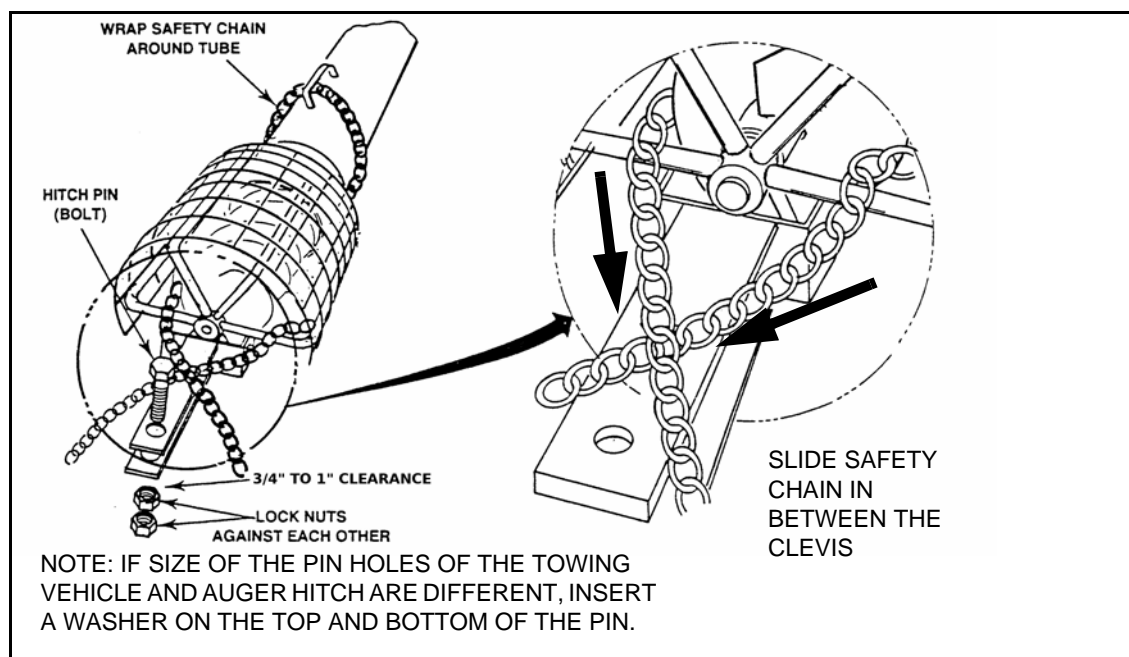

Figure 4.1
Important: Use a type of hitch pin (see Figure 4.1) with a load rating that at least matches the carrying capacity of the towing vehicle.
5. Thread the safety chain through the handle on the lower tube, wrapped around the auger and slipped through the clevis (see Figure 4.1) before securely attaching to the towing vehicle. Leave chain slack enough for angular movement.
Important: Use a type of hitch pin (see Figure 4.1) that will not allow auger to separate from towing vehicle.